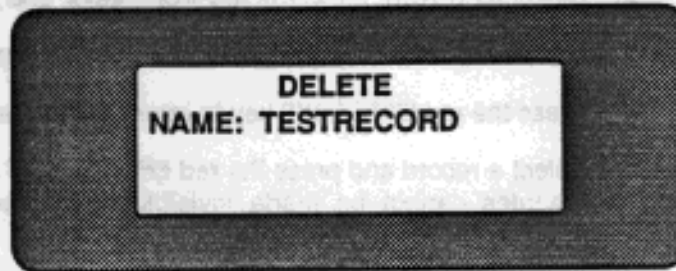

Figure 17: DELETING A RECORD
2. Select **DELETE** using the red ↓ or ↑ keys, and press the red ENTER GROUP key. The **DELETE** display appears (see Figure 17).